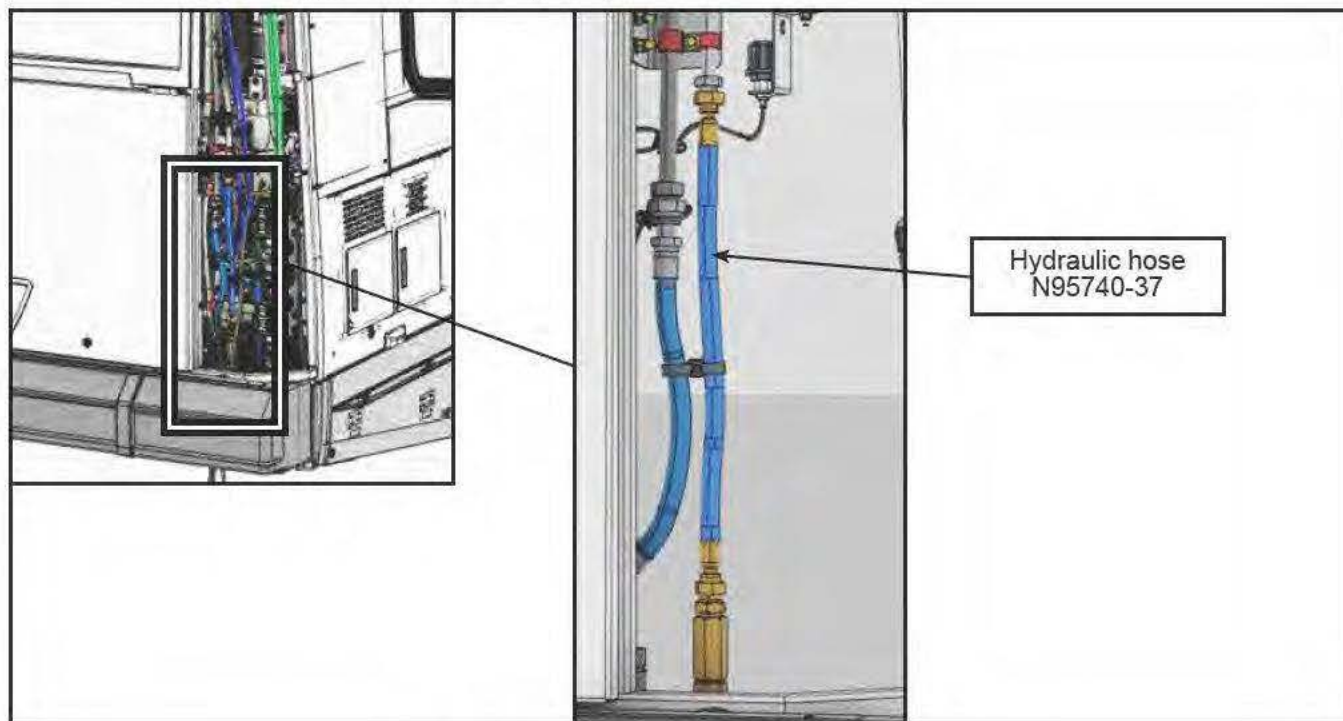

Figure 3 - Replace Hydraulic Hose N95740-37
1.7. Locate hydraulic pipe N95740-37 (Figure 3).